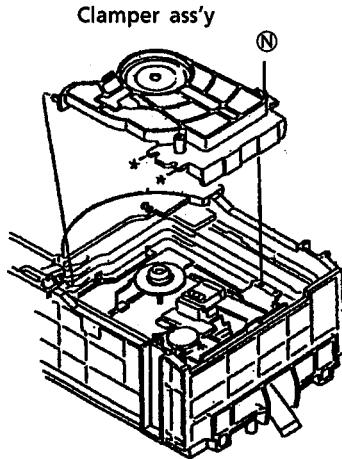

Fig.28
5. Remove a screw ②securing center of the clamper ass'y. (See Fig. 28)